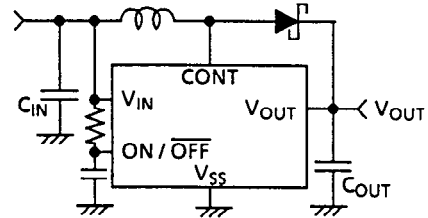

Figure 18
- When the shutdown terminal is connected to the  $V_{\text{IN}}$  terminal, confirm that the deviation of  $V_{\text{IN}}$  terminal voltage is not lower than the  $V_{\text{SL}}$  level. If the deviation is lower than that level, insert a CR filter circuit into the shutdown terminal, as shown in Figure 18. Also when the shutdown terminal is connected to the  $V_{\text{OUT}}$  terminal, the IC may not work (step-up) because of voltage drop by coil and diode at power-on. So, when using with  $V_{\text{OUT}} = \text{ON/OFF}$ , apply a sufficient high supply voltage.